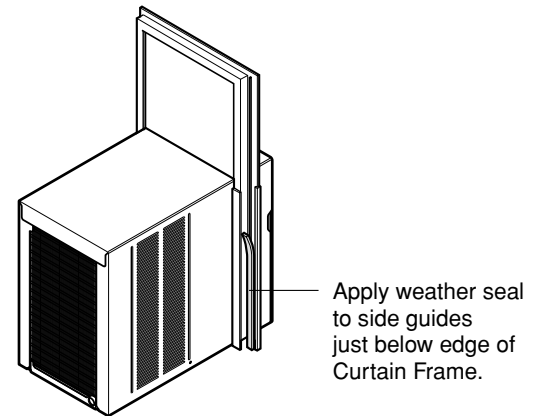

Figure 28
9. Cut side Guide seal into 2 equal lengths. Remove protective backing and apply it to the rear side of cabinet Side Guides, starting just below Curtain Frame assembly. Pinch off excess length so seal is even with the bottom of side Guide. (See Figure 28)